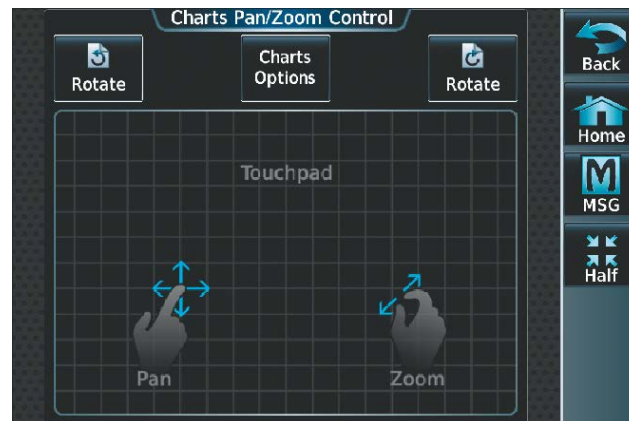

Figure 8-8 Pan and Zoom Touchpad
- 3) Push the Lower Knob. The Charts Pan/Zoom Control screen is displayed on the Touchscreen Controller as shown in Figure 8-8.